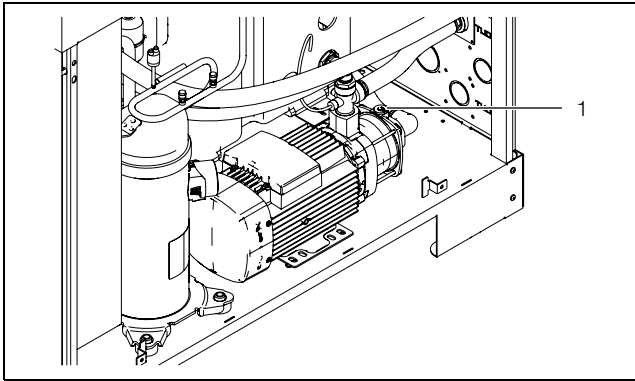

Fig. 22: Bleeding the cooling medium pump
- Bleed the cooling medium pump (with the system at a standstill) by loosening the vent screw (fig. 22, item 1). As soon as cooling medium escapes from the vent screw, bleeding of the pump is complete.